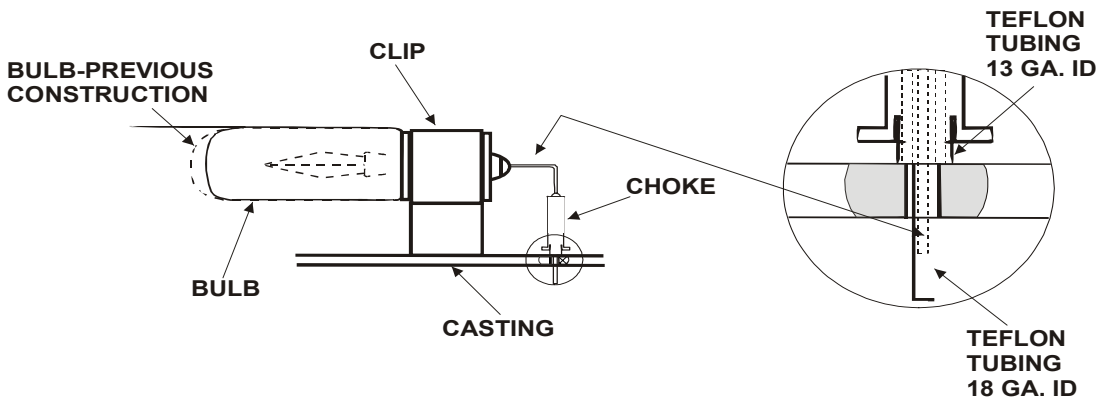

Figure 58. Ignitor Bulb
The ignitor bulb is designed to provide positive instant ignition of the main bulb. As shown in Figure 58, the ignitor is a UV bulb with a probe which projects into the waveguide. The instant the magnetron is energized, the probe intercepts enough energy to ionize the ignitor bulb, creating a small amount of UV radiation which reliably causes ignition in the main bulb. When the main bulb is at full power, the energy level in the ignitor is reduced, prolonging the life of the bulb.
3. Pull the defective bulb out and push the new bulb into the mounting clip. make sure the stem of the bulb fits into the waveguide so that the outer Teflon sleeve on the antenna wire is against the casting (see Figure 58).